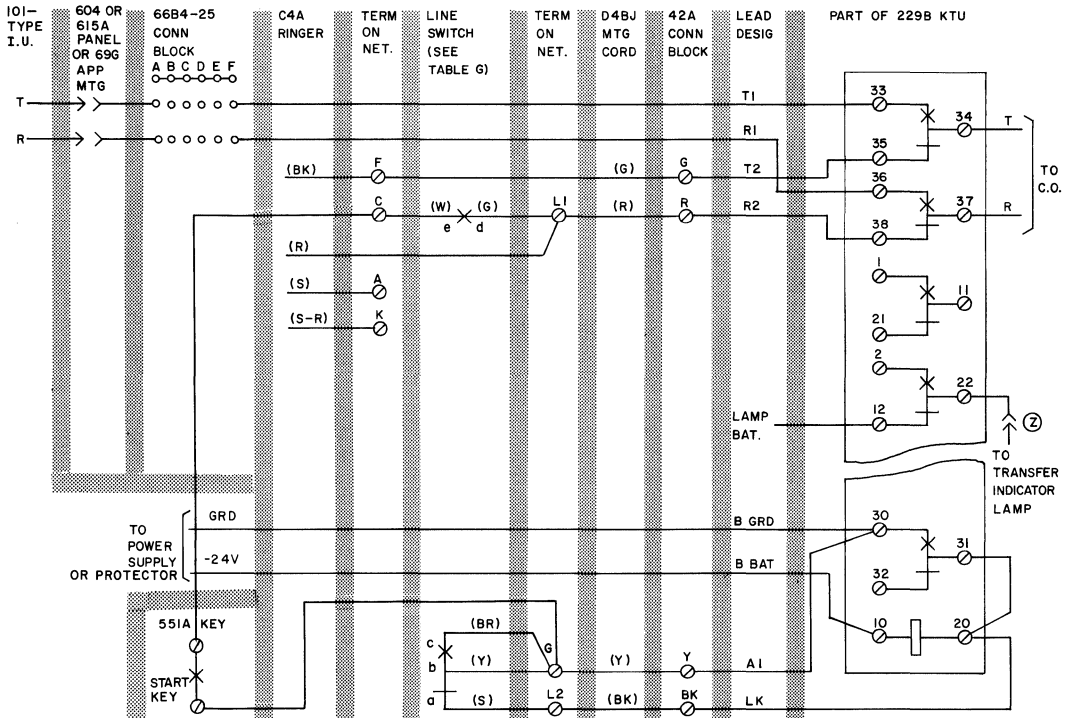

Fig. 16—Power Failure Transfer Circuit (Delayed Restoral)
Power Failure Transfer (Fig. 16 and 17)
3.19 When power failure transfer with delayed restoral is required, the 229B KTU must be mounted externally and wired to the 615A or 604-type panel and selected telephone set as shown in Fig. 16 and Table J. Replace the D3BN mounting cord with a D4BJ mounting cord. If Z option (indicator lamp) is required, install per local practices.
B. Power Failure Transfer (Delayed Restoral, Fig. 16)
4.12 Option Z (Fig. 16) provides visual indication only when the CO line is connected to the power failure telephone set, and an off-hook condition exists when local power resumes. The transfer indicator lamp is lighted through a contact of the 229B KTU. The lamp lights only when the 229B KTU is released by loss of power. It becomes inoperative with the operation of the 229B KTU.
6.05 For connection information using the power failure transfer circuit with delayed restoral, refer to Fig. 16 and Table J. For delayed restoral replace the D3BN mounting cord of 500C/D telephone set with a D4BJ cord.